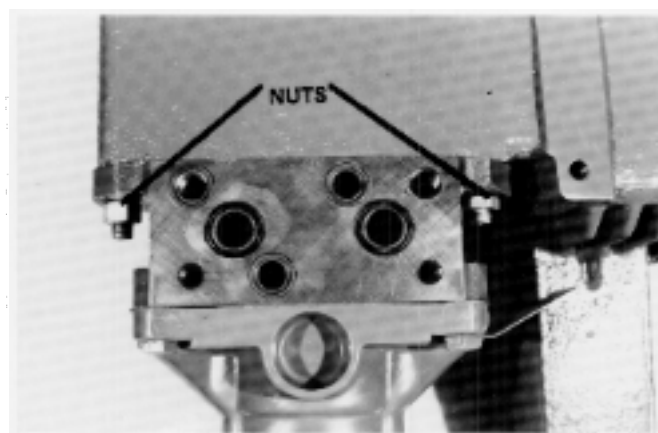

Fig. 5-44 "O" Ring Installation
6. Remove the nuts from the two bolts securing the top section of the motor to the transaxle (Ref. Fig. 5-44).